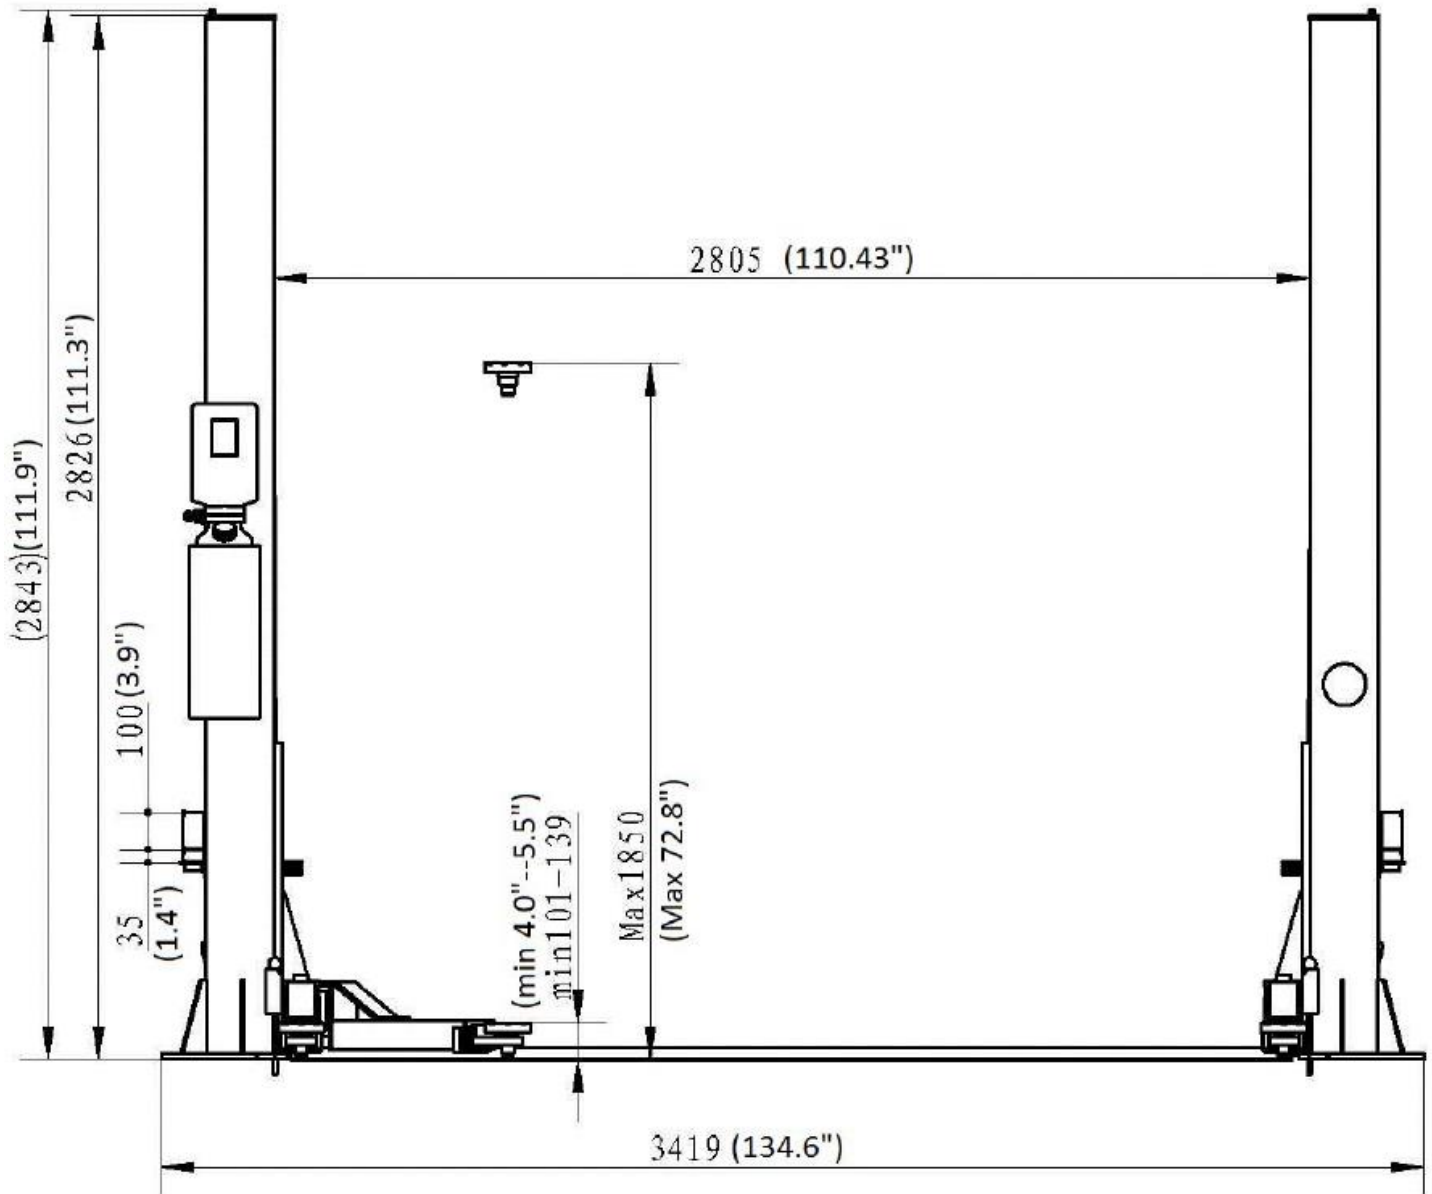

Fig. 2
1. **LIFT LOCATION:** Always use architects plans when available. Check layout dimension against floor plan requirements making sure that adequate space is available (**Figs. 2, 3 & 4**).
2. **OVERHEAD OBSTRUCTIONS:** The area where the lift is located should be free of overhead obstructions such as heaters, building supports, electrical lines, etc. **(Fig 2.)**